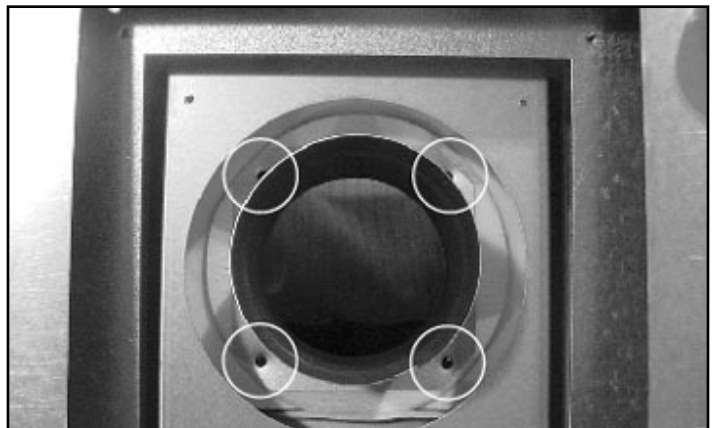

Figure 7.5 Remove Four Inner Collar Screws
- Remove four screws holding inner collar to appliance top. See Figure 7.5. Remove inner collar.